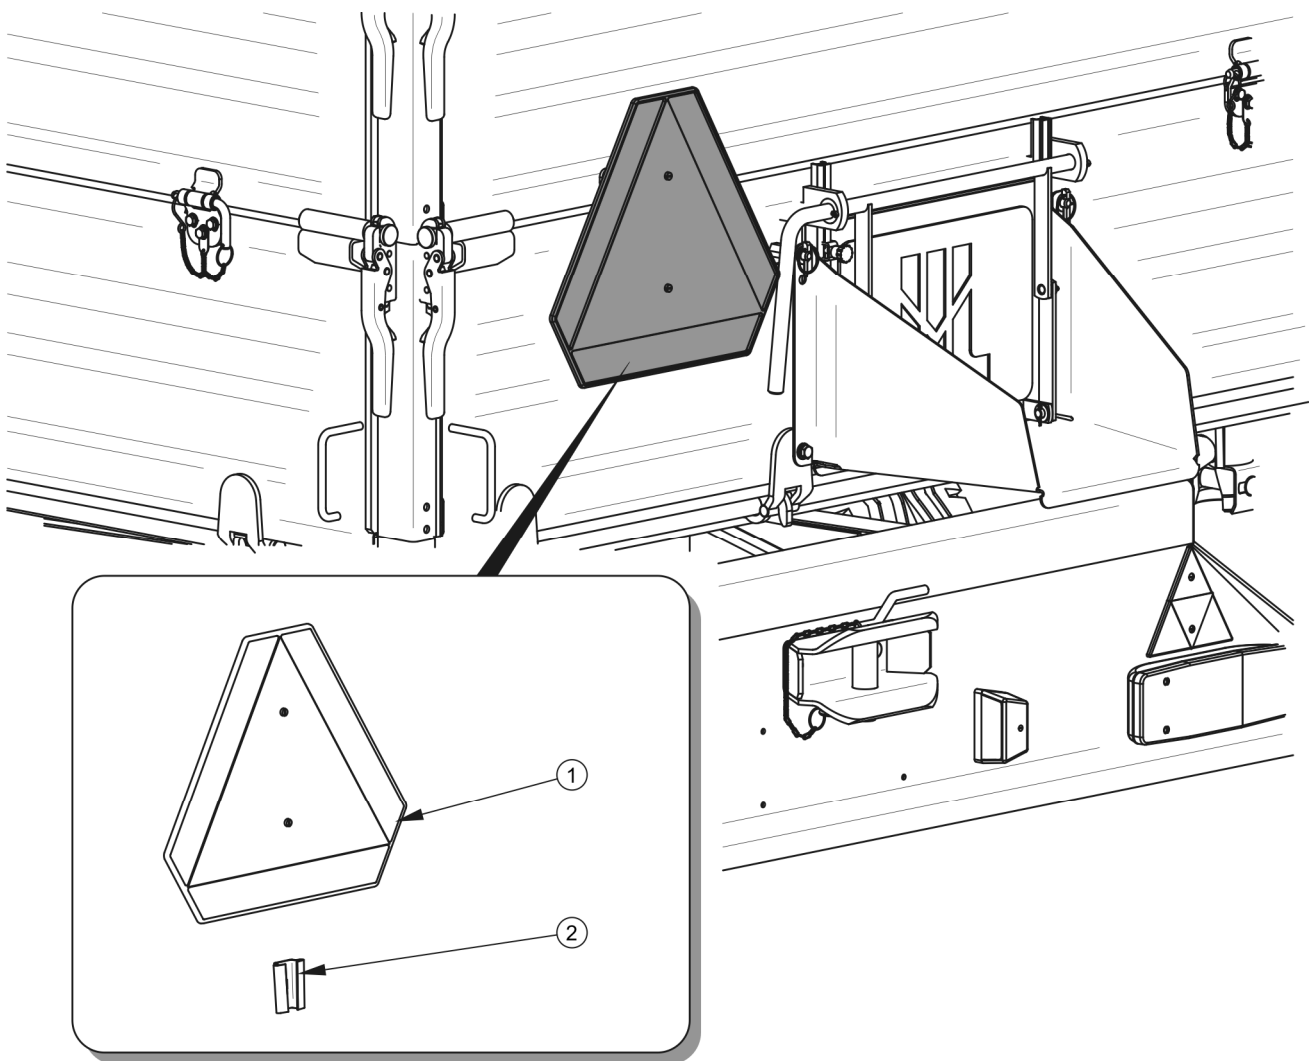

FIGURE 2.2 **Mounting place for slow-moving vehicle sign**
(1) warning sign, (2) attachment point
- If the trailer is the last vehicle in the group, a slow-moving vehicle sign should be placed on the trailer's rear load box wall – (figure 2.2). The warning sign (1) should be attached using the specifically prepared holder (2), riveted to the rear wall of the load box.